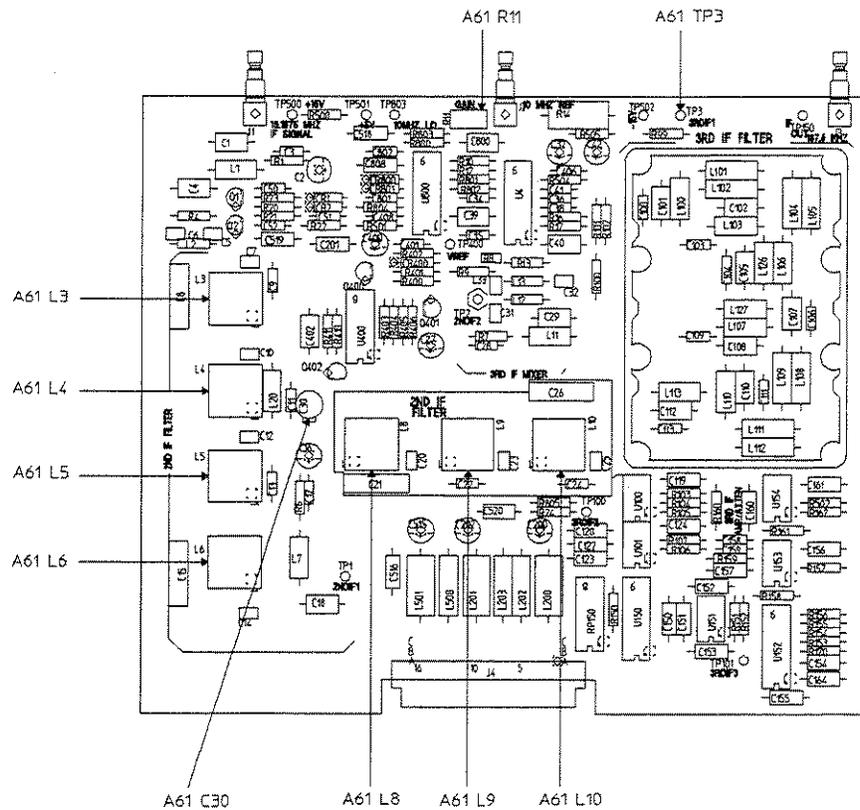

Figure 1-11. A61 IF Component Locator
4. Adjust A61 L3, L4, L5, L6, L8, L9, and L10 from the circuit side of the board (see figure 1-11 for component location) for a maximum **Man** readout (approximately – 20 dBm). Continue adjusting until no further improvement can be made.